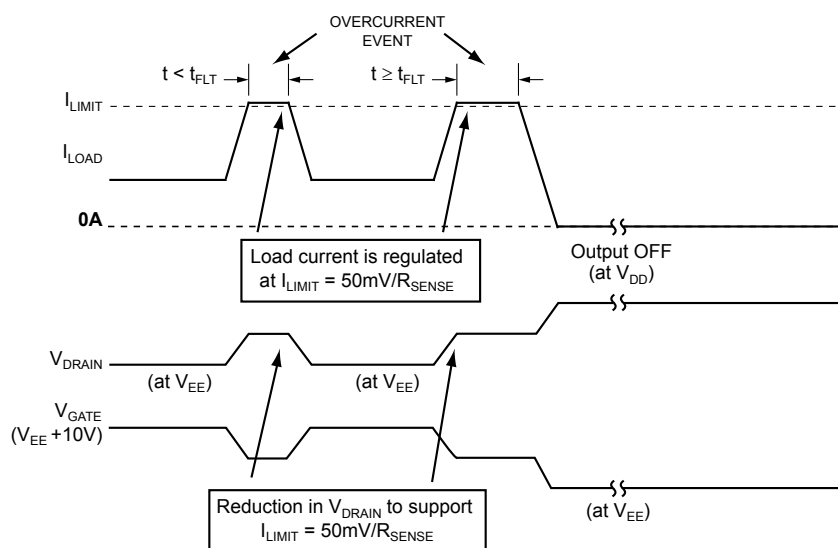

Figure 1. Overcurrent Response
| $t_{FLT}$    | Built-in Overcurrent Nuisance Trip Time Delay (6) (Figure 1) |                                                         |     | 400 |     | $\mu s$ |